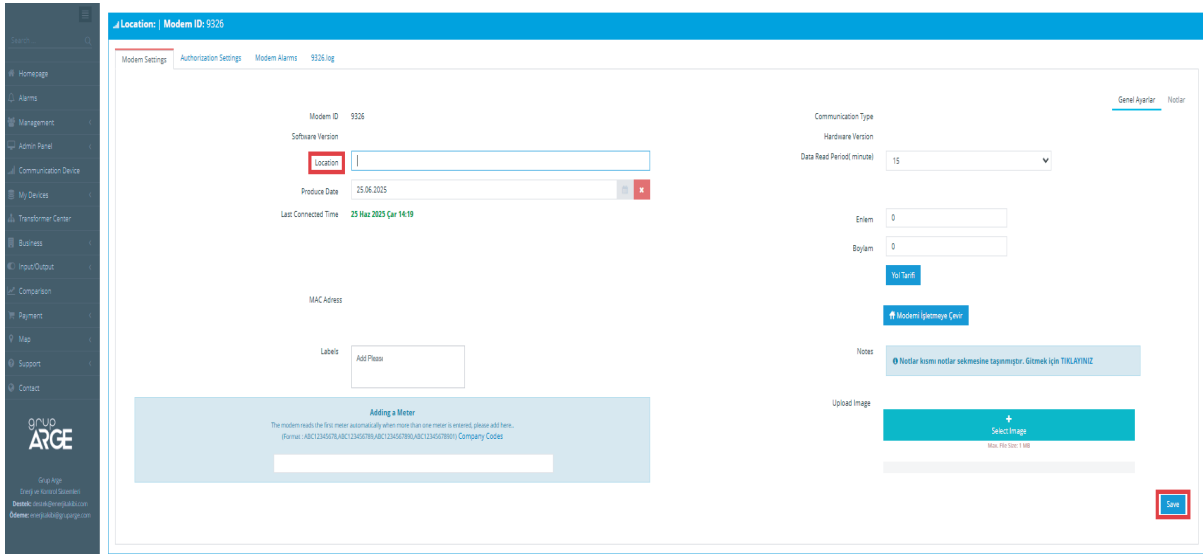

Figure 5.9
11. In the "Modem Settings" section, to quickly identify the company where the device is installed, enter the location information and click the "Save" button. (Figure 5.9)